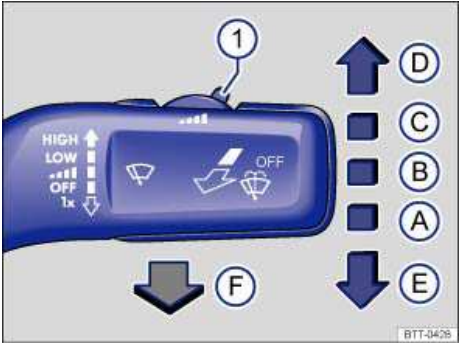

Fig. 103 Operating the front windshield wiper.
- Press the windshield wiper lever down briefly ⇒ fig. 103 \(E\) when the ignition is off.
Carefully fold the wiper arms back onto the windshield before driving! Switch the ignition on and press the windshield wiper lever down briefly ⇒ fig. 103 \(E\). The wiper arms move back to their original position.